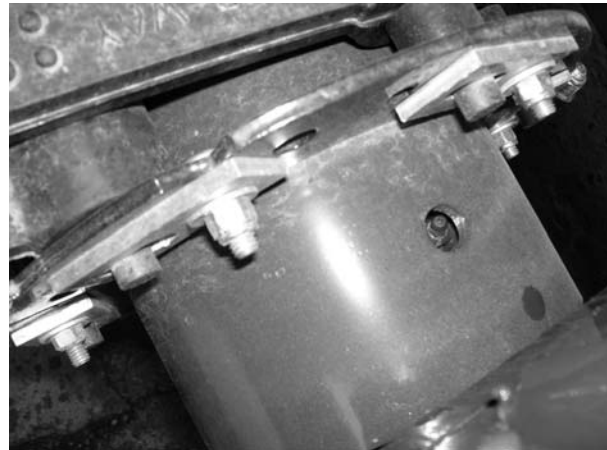

Figure 26 - Center Coupler Lube
2. Center rotor coupler – See Figure 26